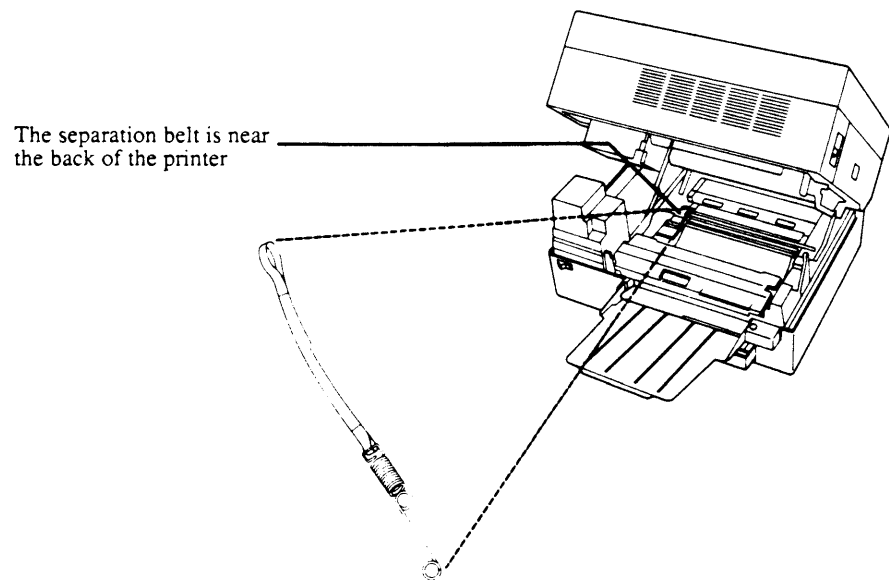

FIGURE 12
2. Locate the separation belt (Figure 12).